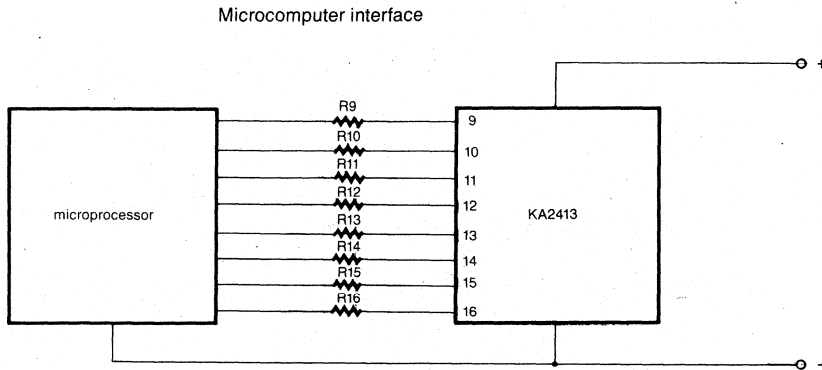

Fig. 5
- KA2413 can also be controlled by a microprocessor (see Fig 5). The negative branch of the microprocessor voltage supply is connected to pin 7 of KA2413 and the inputs (8) are connected with resistors. For tone-generating one input of the low group (pin 13 — 16) is connected to the positive voltage and one input of the high group (pin 9 — 12) is connected to the negative voltage, then KA2413 is activated and the mute output is put in High state.